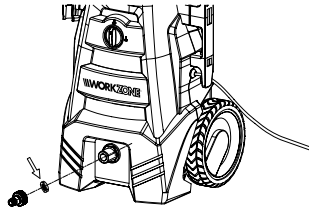

Figure 16
1. Screw the water inlet adapter **21** off and take the dirt filter (arrow) out (see **fig. 16**).